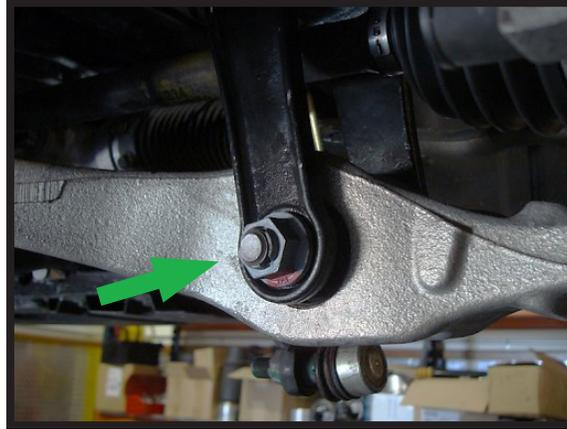

FIGURE 8
10. REMOVE THE LOWER SHOCK MOUNT NUT, FOLLOWED BY THE BOLT AND REMOVE THE STRUT FROM THE VEHICLE. (FIGURE 8)